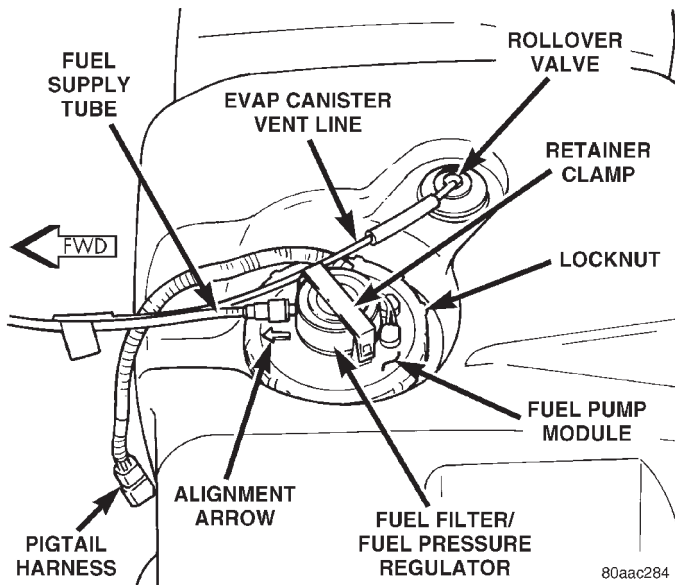
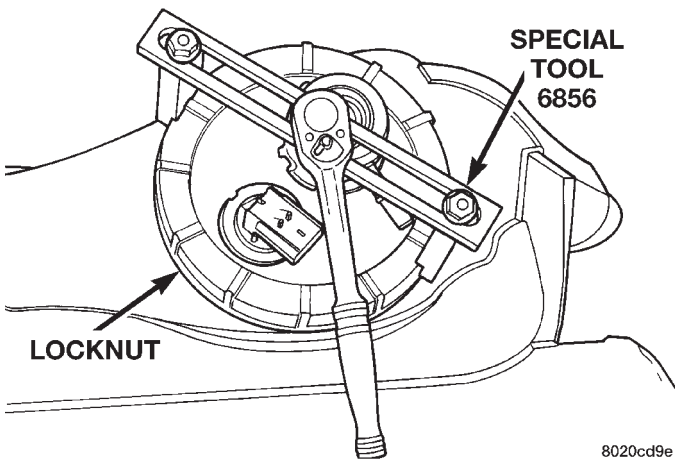

Fig. 24 Top View of Fuel Tank and Fuel Pump Module
Fig. 25 Locknut Removal/Installation—Typical
- (1) Drain fuel tank and remove tank. Refer to the Fuel Tank Removal/Installation section of this group.
- (2) Thoroughly wash and clean area around pump module to prevent contaminants from entering tank.
- (3) Disconnect fuel line at filter/regulator. Refer to Quick-Connect Fittings in this group for procedures.
- (4) The plastic fuel pump module locknut is threaded onto fuel tank (Fig. 24). Install Special Tool 6856 to fuel pump module locknut and remove locknut (Fig. 25). The fuel pump module will spring up when locknut is removed.
- (5) Remove module from fuel tank.
- (4) Position locknut over top of fuel pump module.
- (5) Rotate module until molded arrow (Fig. 24) is pointed toward front of vehicle (12 o'clock position). This step must be done to prevent float/float rod assembly from contacting sides of fuel tank.
- (6) Install Special Tool 6856 to locknut.
- (7) Tighten locknut to 74 N·m (55 ft. lbs.) torque.
- (8) Rotate fuel filter/fuel pressure regulator until its fitting is pointed toward front of vehicle (12 o'clock position).
- (9) Connect fuel line at filter/regulator. Refer to Quick-Connect Fittings in this group for procedures.
- (10) Install fuel tank. Refer to Fuel Tank Installation in this section.